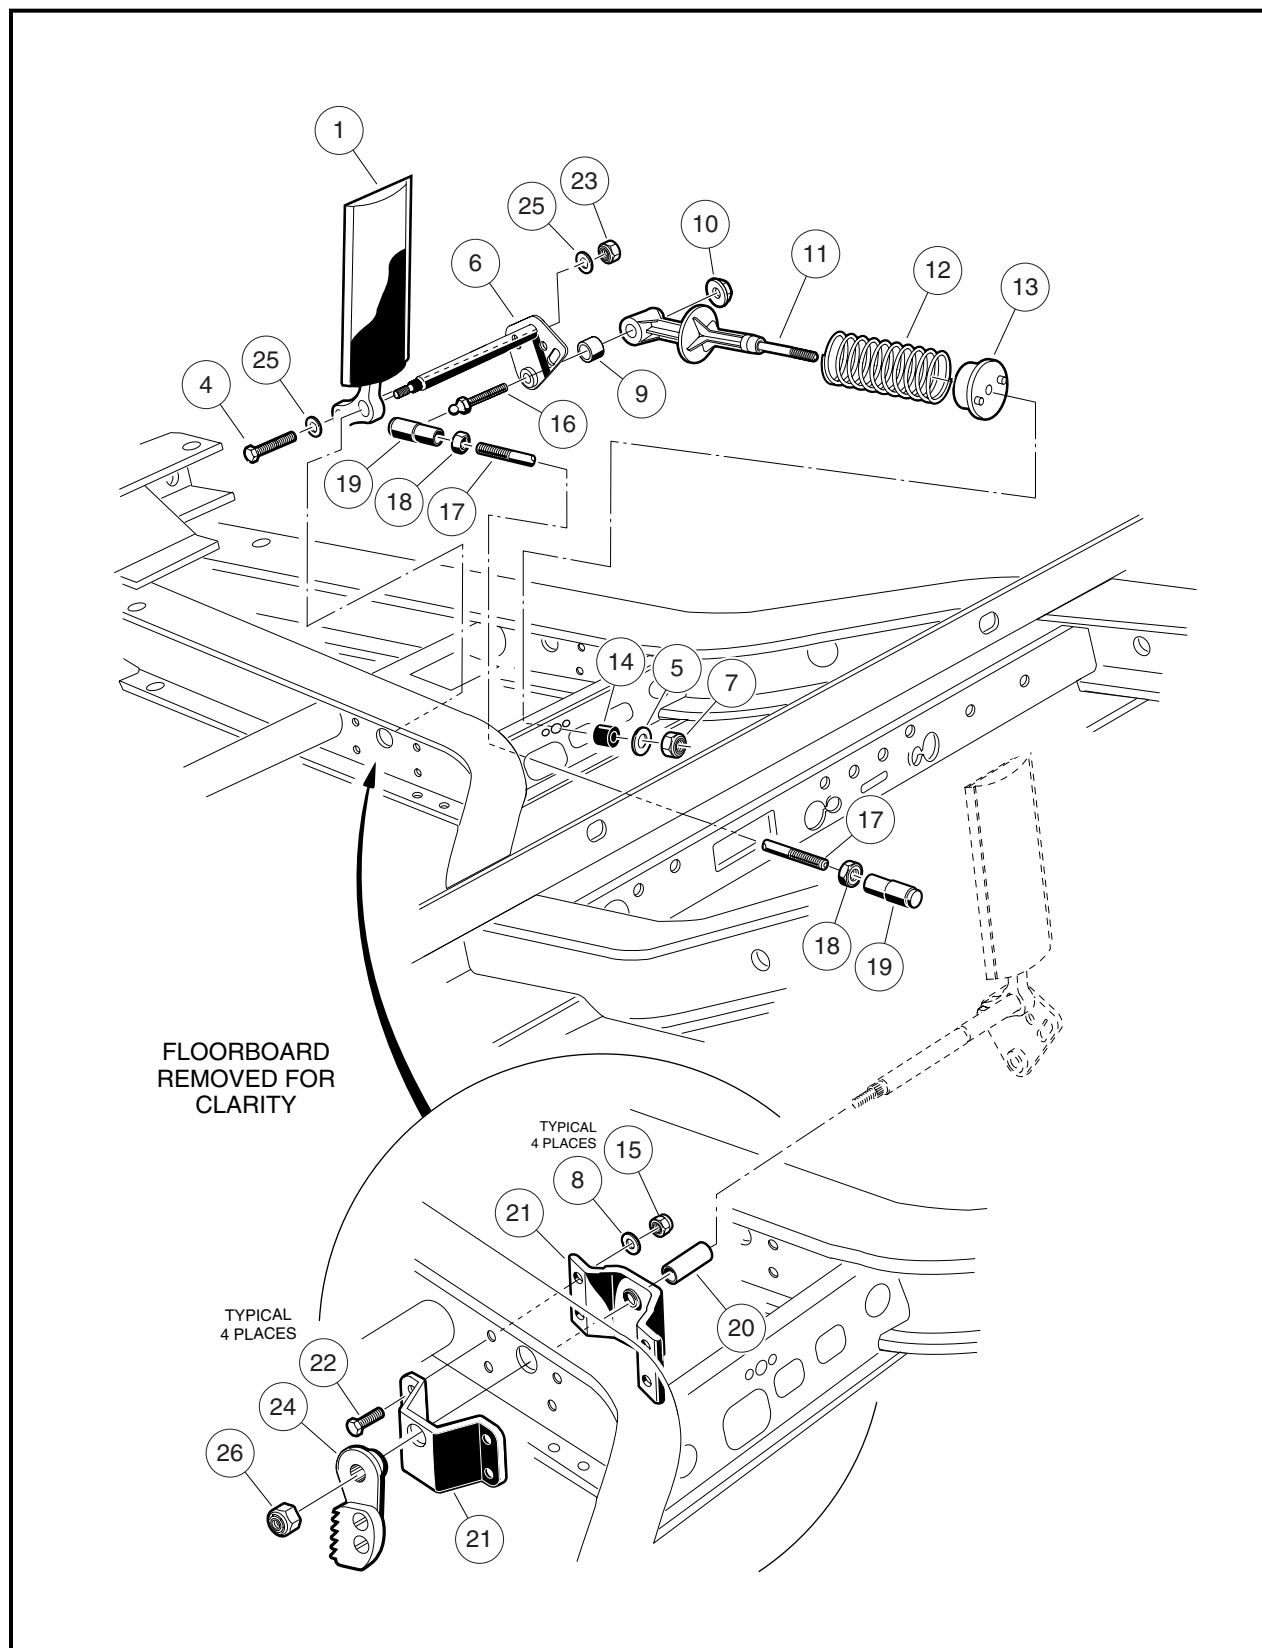

Figure 5-8 Accelerator Pedal Assembly – Gasoline Vehicles and V-Glide Wiper Switch (36-Volt) Vehicles
3. Disconnect the accelerator rod assembly (17, 18, and 19) (**Figure 5-8, Page 5-7**) at the front and rear ball studs and remove it from the vehicle.
4. Use a 9/16-inch socket and 9/16-inch wrench to remove the nut (23), two washers (25), and bolt (4) securing the accelerator pedal (1) to the pivot rod (6).
5. Remove the nut (10) and ball stud (16) from the accelerator pivot rod assembly (6).
6. Slide the spring retainer (11) off of the accelerator pivot rod.
7. Inspect the pivot support bearing (9) for wear and replace if necessary.
8. Use a marker to mark the position of the park brake ratchet (24) on the accelerator pivot rod (6). See following **NOTE**.
9. Remove the lock nut (26) from the accelerator pivot shaft (**Figure 5-8, Page 5-7**).
10. Press the brake pedal slightly and slide the park brake ratchet (24) toward the end of the accelerator pivot rod. Rotate the ratchet and remove it from the pivot rod.
11. Remove the pivot rod (6) and spacer (20) from the accelerator pivot rod supports (21).
12. Inspect the accelerator pivot rod supports (21) for wear or damage and replace as necessary. If the pivot rod supports do not require replacement, loosen, but do not remove the four bolts (22) and lock nuts (15) to make installation of the pivot rod easier.
13. Remove the accelerator pedal (1) from the vehicle.
1. If the accelerator pivot rod supports were replaced, position the supports (21) on the vehicle frame and install the four bolts (22), flat washers (8), and lock nuts (15). Finger-tighten nuts at this time (**Figure 5-8, Page 5-7**).
2. Insert the lower end of the accelerator pedal (1) through the floorboard and install the accelerator pivot rod (6) through the uppermost hole in the pedal.
3. Install the plastic spacer (20) on the pivot rod.
5. Tighten the four bolts (22) attaching the pivot rod supports to the frame to 75 in-lb (8.5 N·m).
6. Insert the bolt (4), with washer (25), through the lower hole in the pedal and through the pivot rod. Secure with washer (25) and new lock nut (23) (**Figure 5-8, Page 5-7**). Finger-tighten lock nut at this time.
7. Install the ball stud (16) through the pivot rod. Install the spring retainer (11) onto the ball stud. Secure these parts with the nut (10) (**Figure 5-8, Page 5-7**). Tighten the nut to 50 in-lb (5.5 N·m).
11. Install the lock nut (26) on pivot rod and tighten the nut to 18 ft-lb (24.5 N·m) (**Figure 5-8, Page 5-7**).